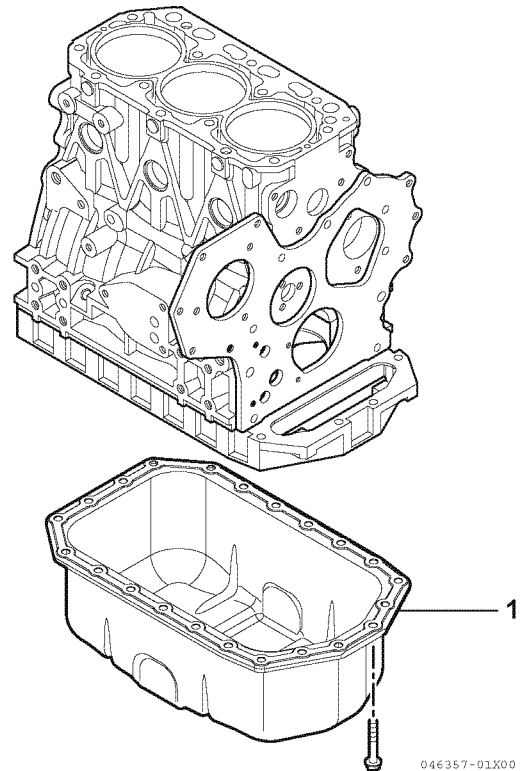

Figure 6-45
2. Remove the oil pan(1, **Figure 6-45**).